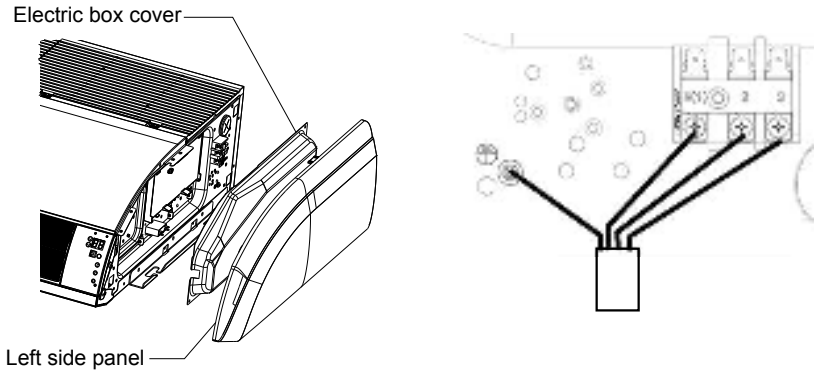

Fig. 29
| ③. | Connect the indoor unit connection cord properly based on the corresponding marks as shown in Fig. 29. |